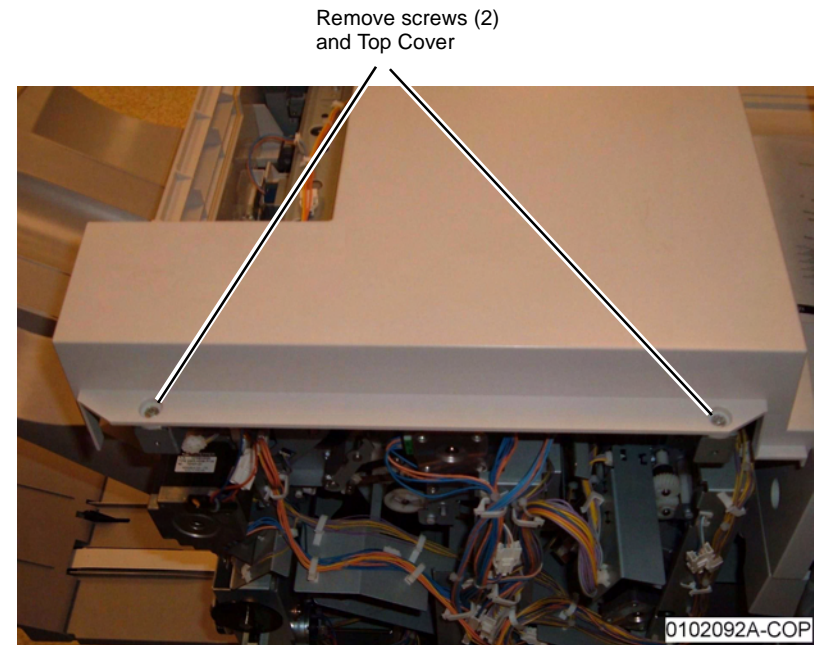

Figure 2 Removing the Top Cover
5. Remove the Top Cover (Figure 2).